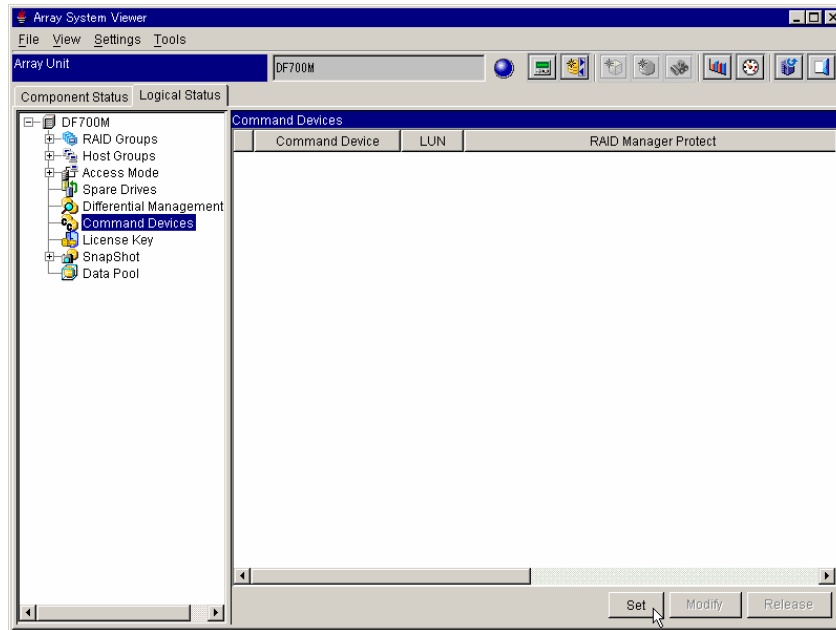

Figure 5.1 Array System Viewer Window (Command Device Page: Before Setting)
2. Connect to the subsystem. The **Array System Viewer** window (see Figure 5.1) opens displaying the connected subsystem.